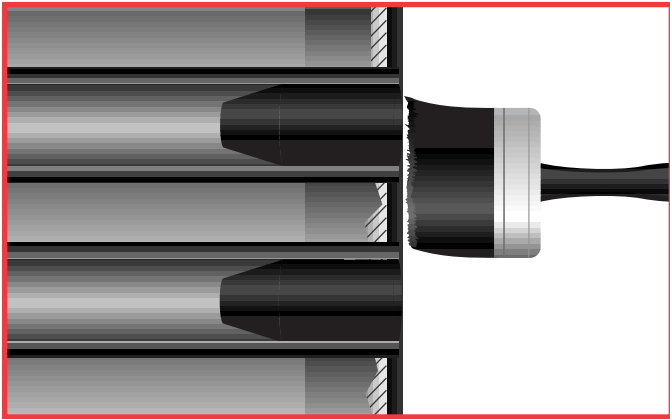

Figure 35. Brush apply epoxy to "wet out" surface.
4. To build up depressions where there is a greater than 1/8" (3 mm) distance from the tube sheet, first coat the sheet with Brushable Ceramic to help "wet out" the surface and act as an excellent prime coat for the next step. (See figure 35)